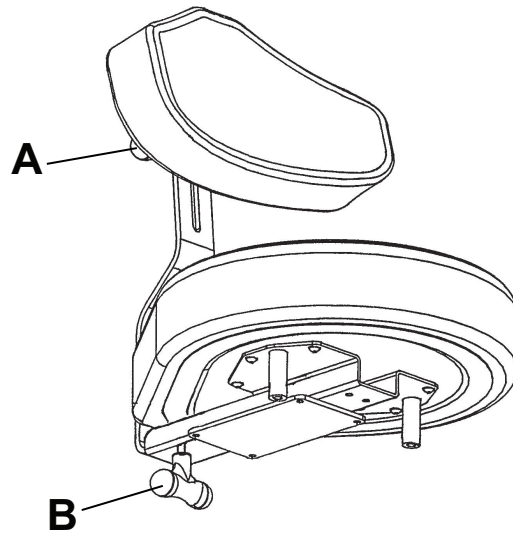

Figure 2 – Adjust the backrest
1. Turn knob (A) counterclockwise (Figure 2).
3. Turn knob (A) clockwise until the backrest is secure.
1. Turn knob (B) counterclockwise (Figure 2).
3. Turn knob (B) clockwise until the backrest is secure.